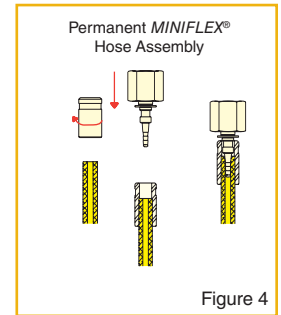

Figure 4
2. Tap the nipple with a rubber mallet until the hose end bottoms onto the hose (Figure 4).